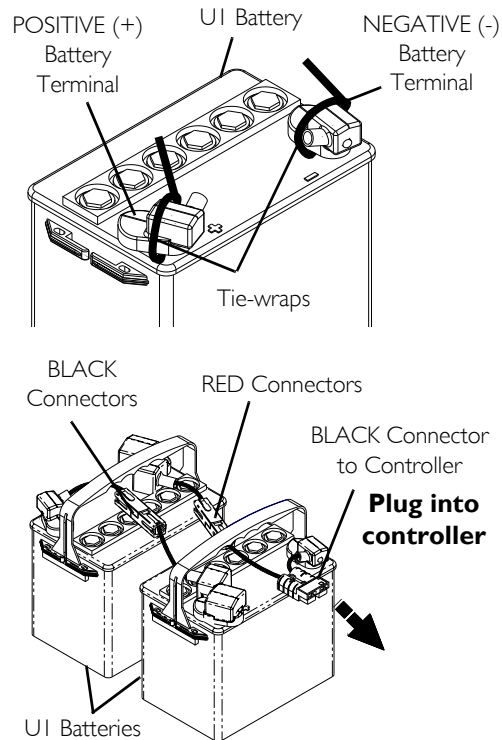

FIGURE 5 Disconnecting/Connecting Battery Cables
For this procedure, refer to FIGURE 5 on page 104.
2. Cut the tie-wrap that secures the battery terminal cap in place (Detail “B” of FIGURE 5).
Battery terminal configuration as shown in Detail “A” of FIGURE 5 MUST be used. Batteries that have the terminal configuration reversed MUST NOT be used - otherwise serious injury or damage may occur.
When connecting the battery cables to the battery, the battery cables MUST be connected to the battery terminals, as shown in Detail “A” of FIGURE 5 (depending on battery type), otherwise damage to the battery cable may result when installing battery terminal caps.
1. Secure the battery cables to the battery terminals as described below. Securely tighten. Refer to Detail “A” of FIGURE 5:
4. Secure each terminal cap in place with a tie-wrap [use tie-wraps 11-1/2-inches long] (Detail “B” of FIGURE 5).